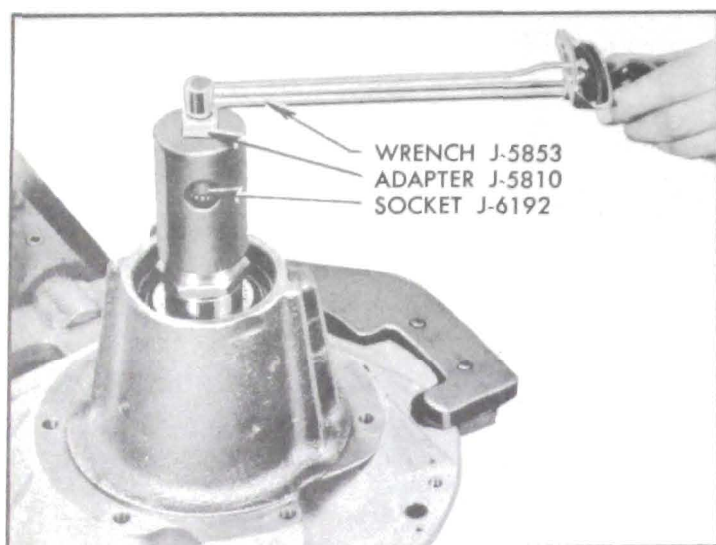

Figure 6-25—Checking Pinion Bearing Pre-Load
5. Rotate pinion three or four times to seat bearings. Turn pinion slowly with an inch pound torque wrench; bearing pre-load should be 10 to 30 inch pounds. See Figure 6-25. If pre-load is under 10 inch pounds, replace spacer with a thinner one; if pre-load is over 30 inch pounds, remove pinion nut and front bearing and replace pre-load spacer with a thicker one. These spacers are furnished to be used in pairs so that possible thicknesses range from .400" to .470" by thousandths. Service spacers are marked with their thickness in thousandths.